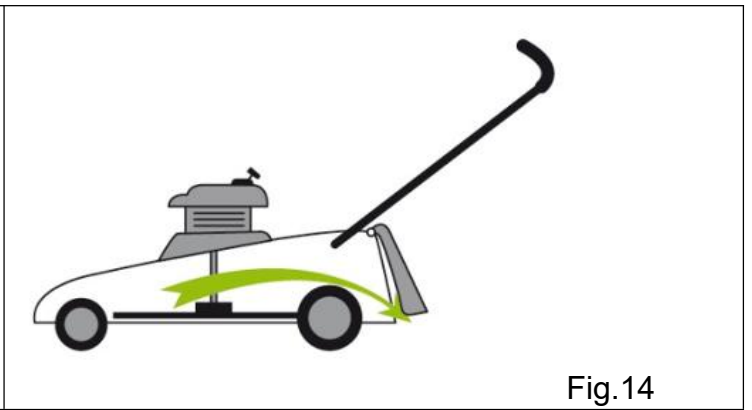

Fig.14
- 4) Take out the garss catcher, grass rear discharged without grass collection.(Fig.14)